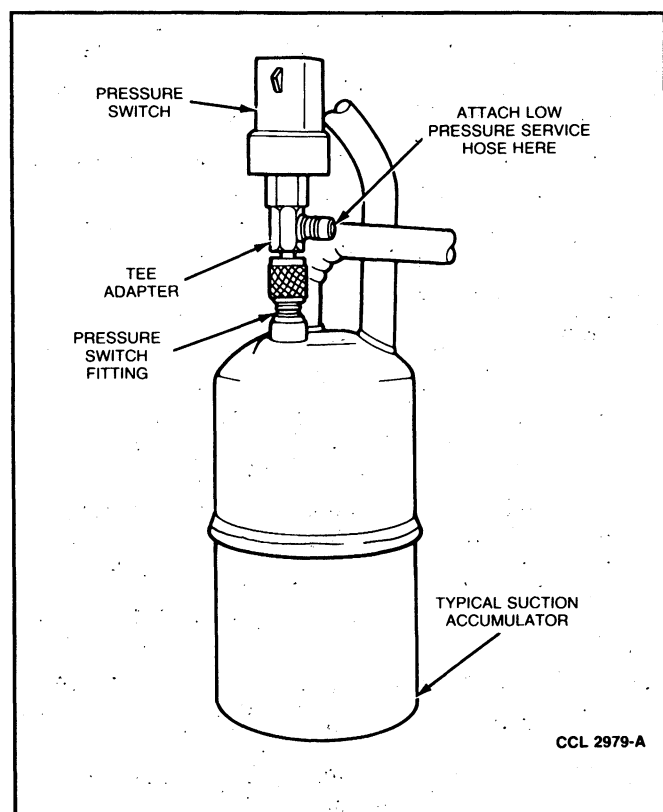

FIG. 5 Tee Adapter Tool Installation
A Tee Type Service Adapter tool D87P-19703-A or equivalent may be used to diagnose the low pressure side of the refrigerant system. The tool is shown installed in Fig. 5.
2. Install a new clutch cycling pressure switch and O-ring on adapter tool (Fig. 5), and plan to leave it on adapter as a permanent part of tool. Lubricate O-ring before installation.